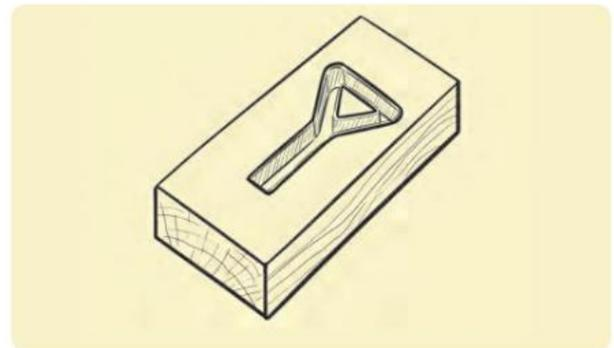

Figure 10.12 The peg is formed once in the mould.
- 6 Apply heat again and bend the shape in a mould, and leave it to cool. Figure 10.12 shows a peg after it is heated in a mould.